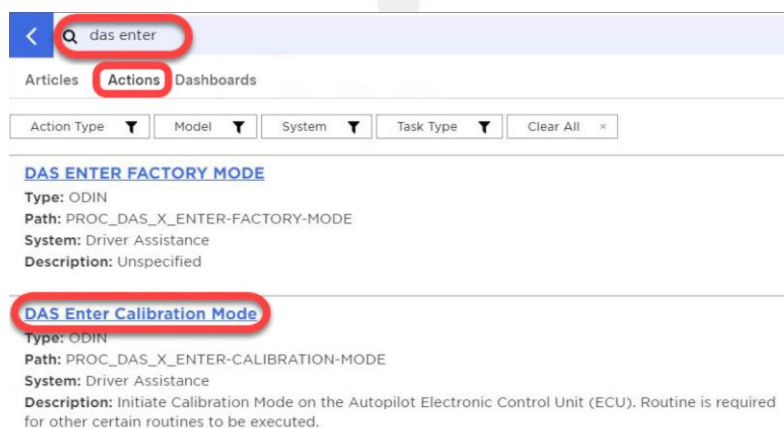

Figure 3
7. In Toolbox, click **Actions**, and then search for and run the “DAS Enter Calibration Mode” routine (Figure 3).